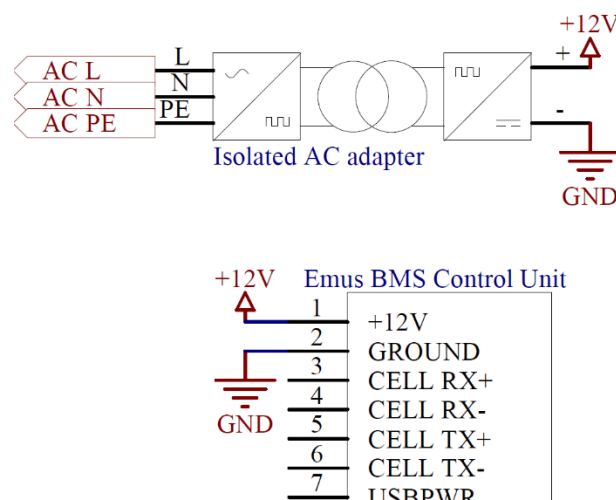

Figure 0.2 Power supply strategy 1
1. In applications that guarantee constant grid power availability (i.e. domestic energy storage systems for increasing self- consumption from solar panels or wind turbines, industrial energy storage systems for peak shaving, fast charging stations, etc.), it is recommended to supply power to the Control Unit and the rest of EMUS G1 BMS components from the grid using an appropriate isolated AC adapter, as shown in the example in Figure 0.2;